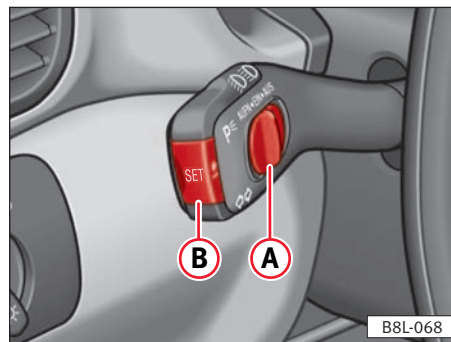

Fig. 148
The system is temporarily switched off when the brake or clutch pedals are used or when the switch ⇒ fig. 148 (A) is moved to AUS (not engaged).
To **resume** the previously stored speed push switch ⇒ fig. 148 (A) fully to the left after the brake or clutch pedals are released.
- Move switch ⇒ fig. 148 (A) fully to the left and hold until the desired speed has been reached. The speed is stored when the switch is released.
- Press button ⇒ fig. 148 (B) briefly. The current speed is stored. ■
The system is **completely switched off** when switch ⇒ fig. 148 (A) is moved entirely to the right (OFF engaged) or when the vehicle is stopped and the ignition is switched off.